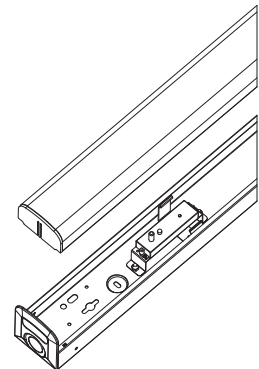

Fig 3
2. Attach the sensor to the bracket with screws as shown in Fig.3 .